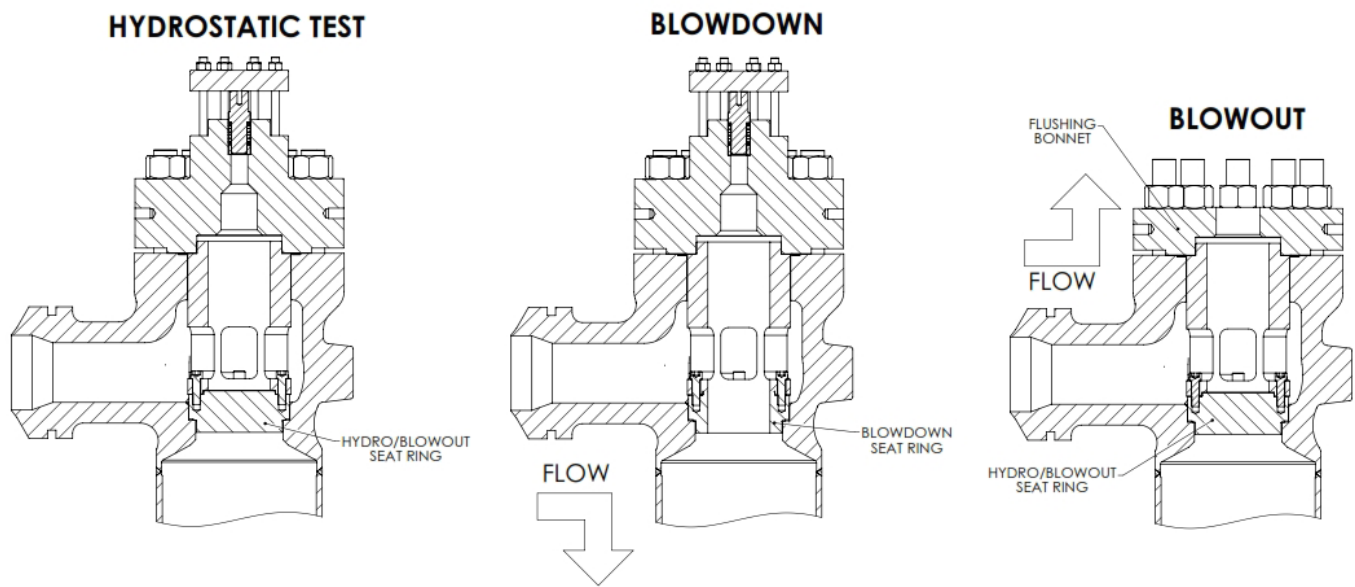

Figure 3 - Example flushing and hydrostatic testing fixtures
*Multiple stage valves can be equipped with either welded or drop in type diffusers for stages 2-4. The welded diffusers are less costly because the overall body size can sometimes be reduced, but must be cleaned or flushed through the bonnet using special trim. Valves using Drop-In diffusers can be cleaned or flushed through the valve using special trim designed for the purpose. See Figure 3 and "Flushing Operations" on page 9.*